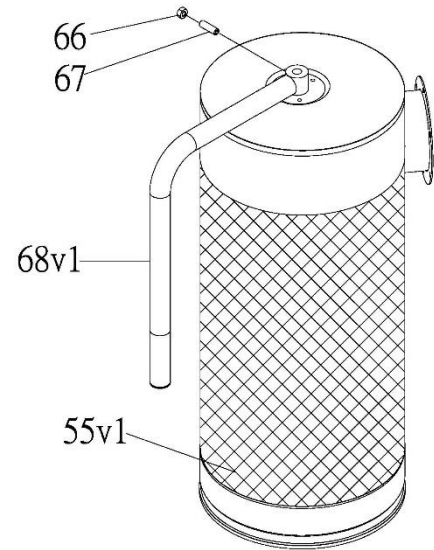

Fig. 5
7. Use the Set Screw (NO.67) 5/16" x 3/4" and Nut (NO.66) 5/16" to assemble the Handle (NO.68V1) and Canister Filter (NO.55V1) See FIG. 5